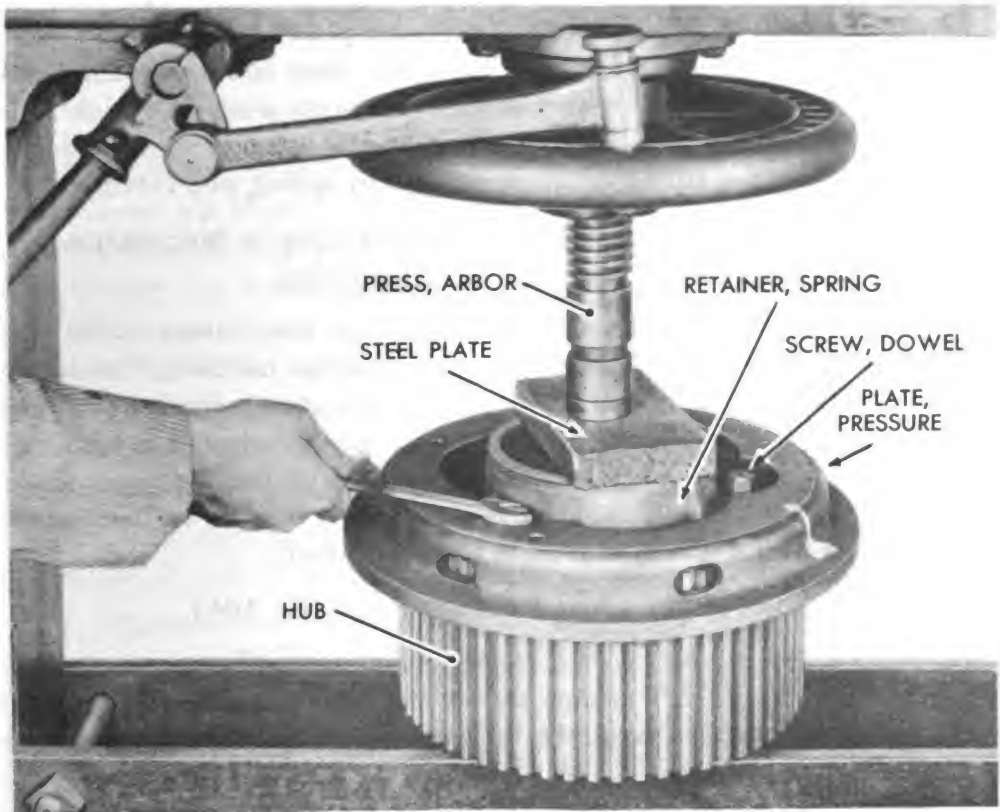

Figure 103 — Compressing Steering Clutch Spring and Removal of Retainer
(12) COMPRESS STEERING CLUTCH SPRING (fig. 103).
(1) INSTALL STEERING CLUTCH SPRING (fig. 103).